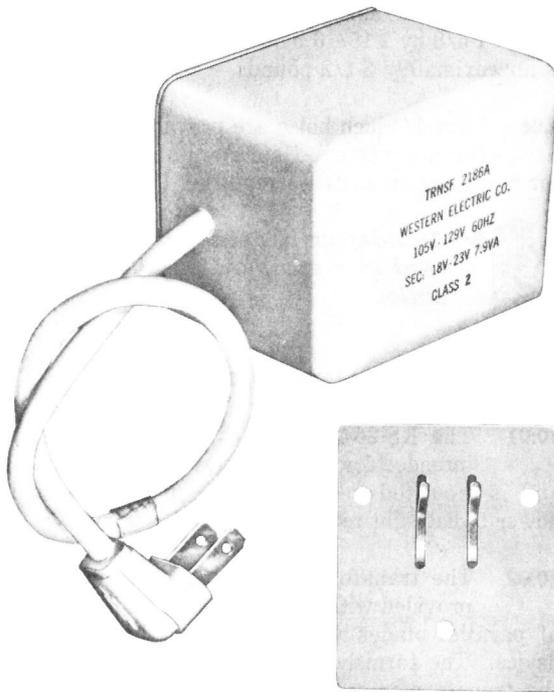

Fig. 8—2186A Transformer
**6.01** The 2186A transformer (Fig. 8) supplies power for the 700A and 700B subscriber sets.